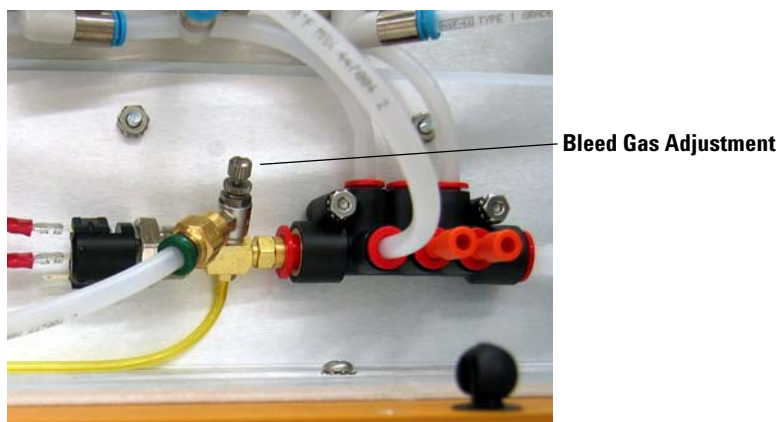

Figure 14 Bleed gas adjustment (inside pneumatics router)
- 1 Turn off the bleed gas output (Figure 14 on page 27) on the manual flow valve inside the router.
This procedure establishes the proper gas flow to the preconditioning unit when the system is regulating the sample at temperatures above the temperature set in the parameter `vtc`. The main variable temperature gas is flowing out of the HIGH port of the Pneumatics Router through the one-way valve to the probe Dewar or solids stack. Some gas is bled off by the bleed regulator inside the Pneumatics Router, (see Figure 14 on page 27), and supplied to the pre-conditioner unit (FTS) to keep the pre-conditioner regulated even when not in use. The gas flow exits the pre-conditioner unit through a flow control valve and muffler.
- 1 Close the bleed gas regulator inside the Pneumatics Router, see Figure 14.